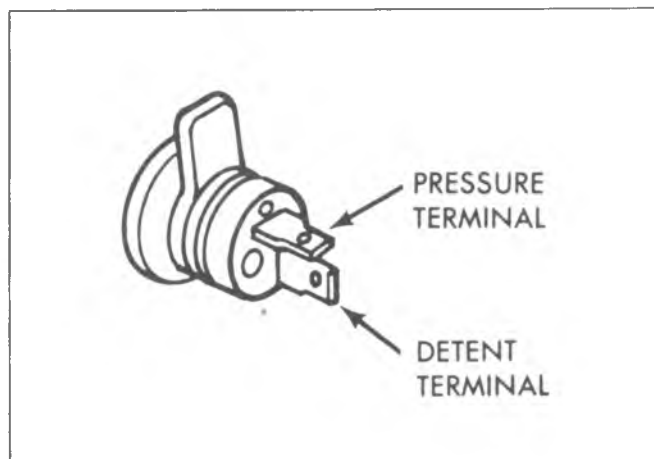

Fig. 8T—Electrical Connector for TCS (Two Term)
1. Disconnect electrical wire harness from transmission electrical connector. If using a continuity tester which has a self contained power source, connect one tester lead to pressure switch terminal of transmission connector (see Fig. 8T), and connect other lead to ground. Tester should show current flowing through the switch (switch closed).